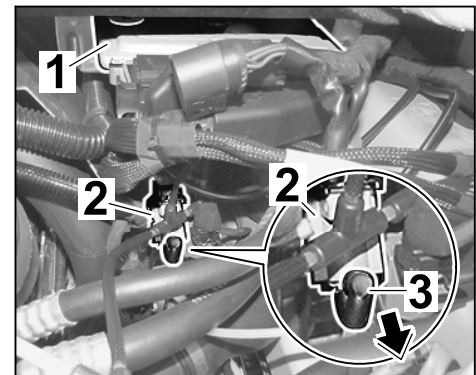

Figure 11
2.4.1 Pull standard vacuum line \Rightarrow Figure 11 -**3**- off the change-over valve (flap control) \Rightarrow Figure 11 -**arrow**-.